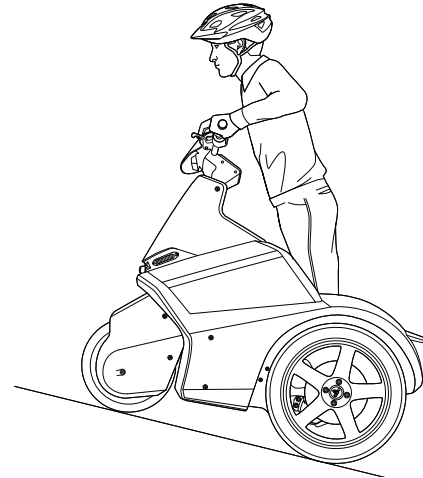

Figure 32: Lean forward when ascending
- Lean slightly forward when ascending (**Figure 32**).